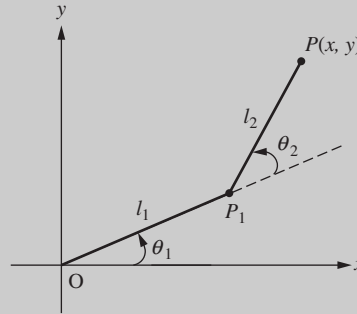
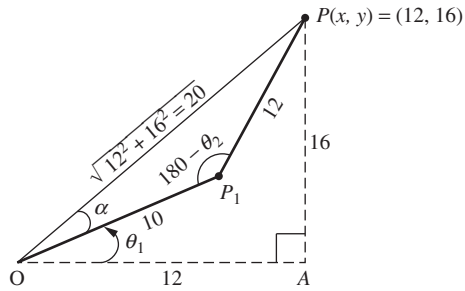

Figure 3.19 Two-link planar robot for example 3-14.
Figure 3.21 The triangle OP_1P to find the angles θ_1 and θ_2 .
Consider a two-link planar robot, with positive orientations of θ_1 and θ_2 as shown in Fig. 3.19.
- Suppose now that the same robot is located in the first quadrant and oriented in the elbow-up position, as shown in Fig. 3.19. If the tip of the robot is located at the point $P(x, y) = (12, 16)$, determine the values of θ_1 and θ_2 .
- (b) For the two-link robot located in the first quadrant as shown in Fig. 3.19, the angle θ_2 can be found using the law of cosines on the triangle OP_1P shown in Fig. 3.21. The unknown angle $180^\circ - \theta_2$ and the three sides of the triangle OP_1P are shown in Fig. 3.21. Using the law of cosines gives
Since the robot is in the elbow-up configuration, the angle θ_2 is positive and is given by $\theta_2 = \cos^{-1}(0.65) = 49.46^\circ$. Also, from Fig. 3.21, the angle $\theta_1 + \alpha$ can be determined using the right-angled triangle OAP as
Consider a two-link planar robot with positive orientations of θ_1 and θ_2 as shown in Fig. 3.19. Suppose $\theta_1 = 120^\circ$, $\theta_2 = -30^\circ$, $l_1 = 8$ cm, and $l_2 = 4$ cm.
Consider a two-link planar robot with positive orientations of θ_1 and θ_2 as shown in Fig. 3.19.